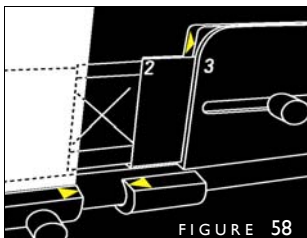

FIGURE 58
6. To make your front spine edge score, slide your cover over so its right edge lines up with **the point** of the left yellow arrow on the back of the Book Thickness Rings (Figure 58). Push the Lever to the left to score.